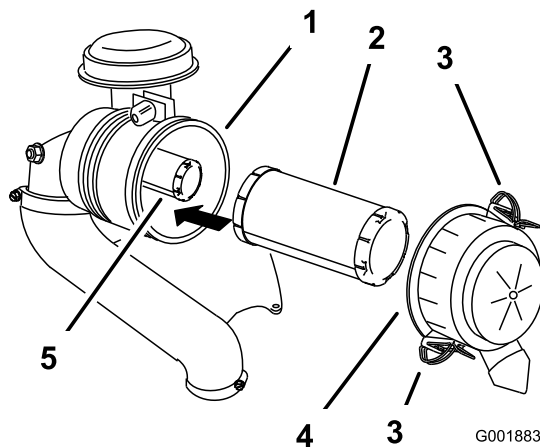

Figure 41
3. Release the latches on the air cleaner and pull the air-cleaner cover off the air-cleaner body (Figure 41).
5. Gently slide the primary filter out of the air-cleaner body (Figure 41).
- If you are replacing the safety filter, carefully slide it into the filter body (Figure 41).
- Carefully slide the primary filter over the safety filter (Figure 41).
- Install the air-cleaner cover with the side indicated as **up** facing upward and secure the latches (Figure 41).